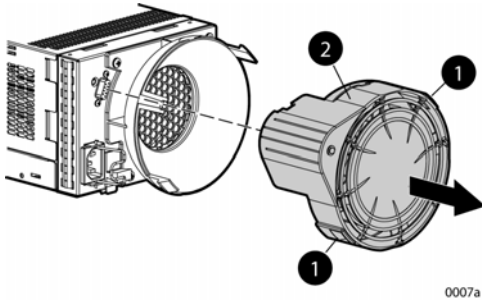

Figure 52 Removing a blower
- While pushing in on the two wine-colored mounting tabs (1, Figure 52), pull the blower (2) away from the power supply.